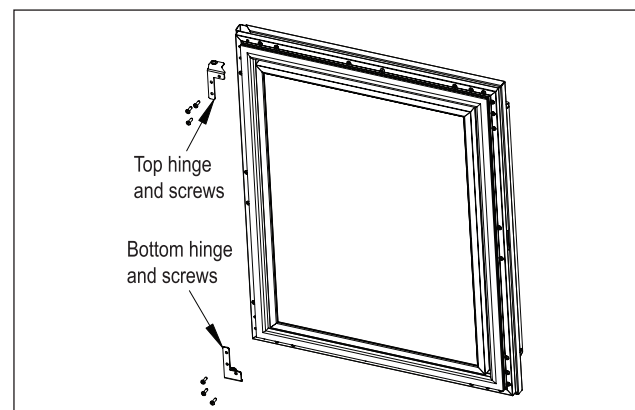

Figure 9: Door Hinges
- Attach the top and bottom door hinges using screws removed in step 6 (Figure 9).